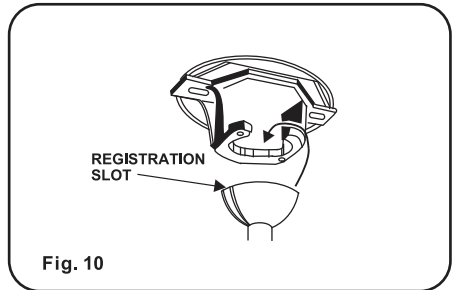

Fig. 10
Step 6. Now lift motor assembly into position and place hanger ball into hanger bracket. Rotate until the check groove has dropped into the registration slot and seats firmly. (Fig. 10) Rod should not rotate if this is done correctly.